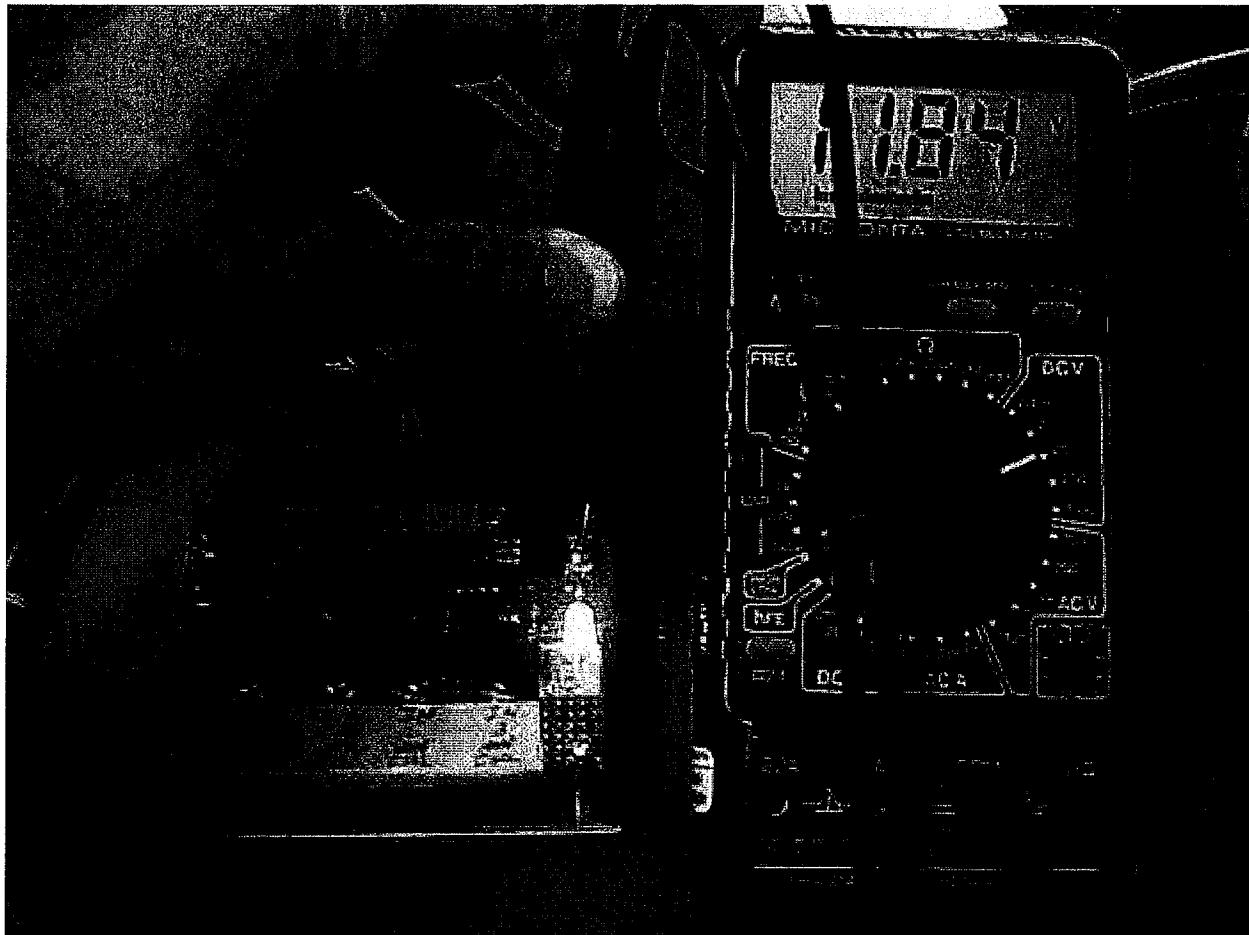

Figure 10
9.4.8.2 Verify that voltage out of I/O port is $11.80 \pm \square$ mV by measuring DC voltage into regulator. Black probe of multi-meter to tab of LM7805 regulator, Red probe to input pin. See Figure 10 for details.